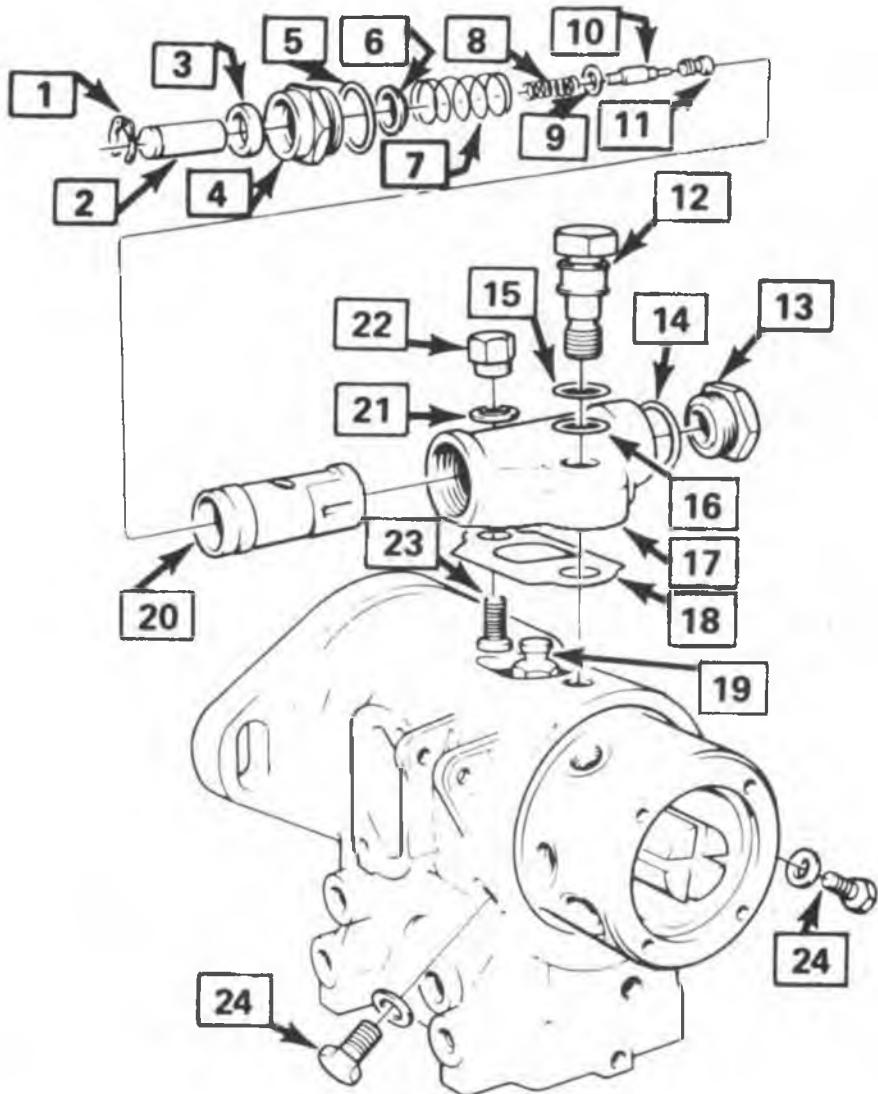

Fig. 3-16 CAV Pump Auto Advance Unit
AUTO-ADVANCE PRESSURE END PLUG SEAL (Fig. 3-16)
AUTO-ADVANCE SPRING CAP SEALS (Fig. 3-16)
AUTO-ADVANCE HOUSING GASKET (Fig. 3-16)
10. Remove the head locating fitting, cap nut and sealing washer from the advance housing. Remove the advance assembly and gasket. Discard all gaskets, "O" rings and sealing washers (Fig. 3-16).
11. Loosen the cam advance screw, then tap the advance screw lightly, if necessary and make certain the cam ring is not binding in the pump housing (Fig. 3-16).
12. Remove the cam screw (Fig. 3-16).
14. Remove the head locking screws and washers. Discard the washers (Fig. 3-16).
10. Align the threaded hole in the cam ring with the opening for the auto-advance unit. Install the advance screw finger tight (Fig. 3-16).
15. Install a new gasket onto the pump housing with the straight edge in the gasket nearest the housing stud (Fig. 3-16).
16. Install the advance housing assembly to the pump housing engaging the bore in the piston with the cam advance screw. Lightly secure the assembly in position with a new sealing washer and cap nut (Fig. 3-16).
17. Lube and install new "O" rings to the head locating fitting. Install the locating fitting into the hydraulic head leaving it loose (Fig. 3-16).